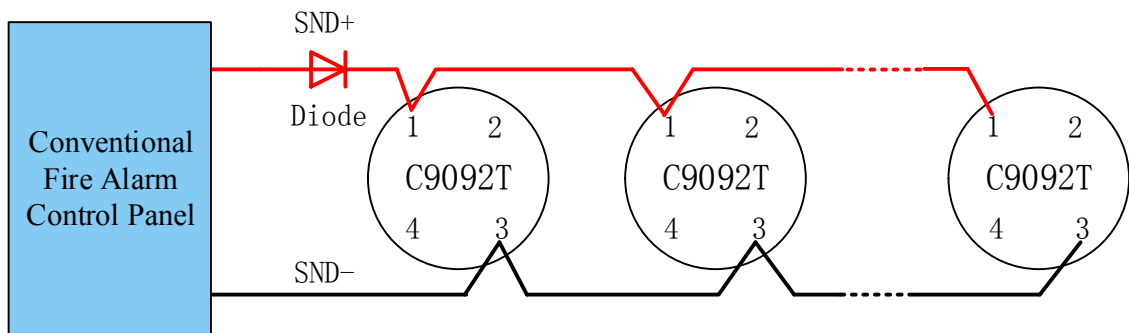

Fig.3
- Cut off the controller working power, according to the construction drawings, firstly connect all the bases correctly in the way of figure 3;